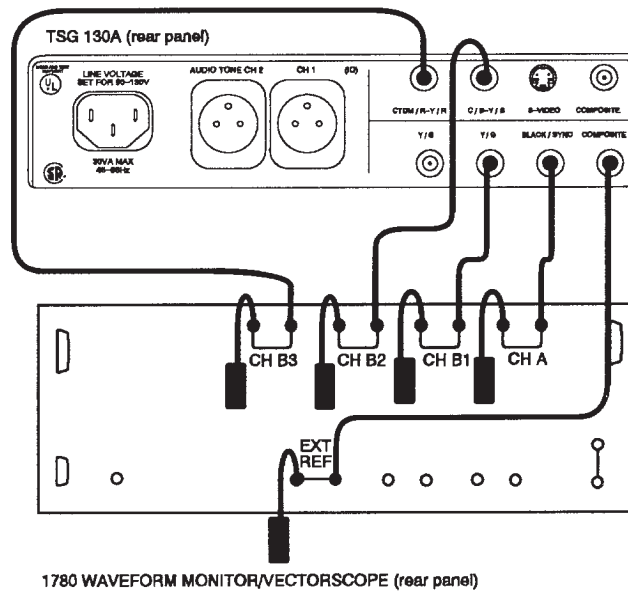

Figure 6–6: Setup to calibrate black burst output
- a. Begin with the 1780R setup shown in Figure 6–6 and select channel A as the input.